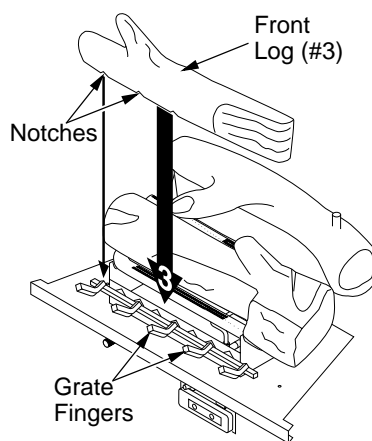

Figure 47 - Installing Front Log (#3)
3. Locate the notches in the bottom of the front log (#3). Place the front log on the grate fingers. Make sure the notches of the front log line up with the grate fingers (see Figure 47).